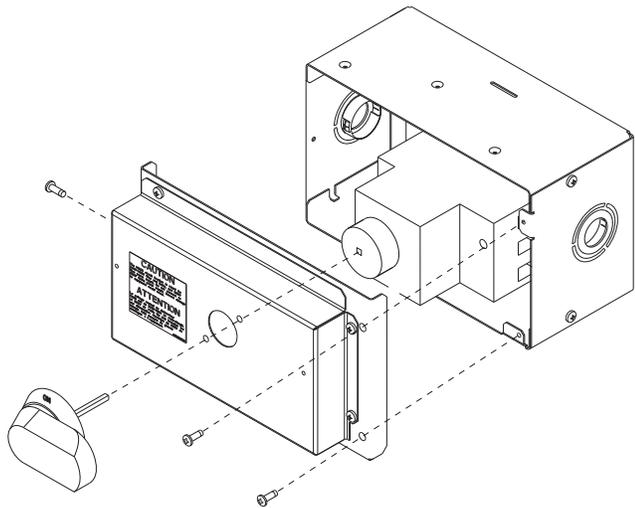

Fig. 23 — HACR Handle and Shaft Assembly
5. Insert the shaft all the way with the cross pin on the top of the shaft in the horizontal position. See Fig. 23.
9. Secure the handle to the painted cover with (2) screws and lock washers supplied.
10. Engaging the shaft into the handle socket, re-install (3) hex screws on the HACR enclosure.